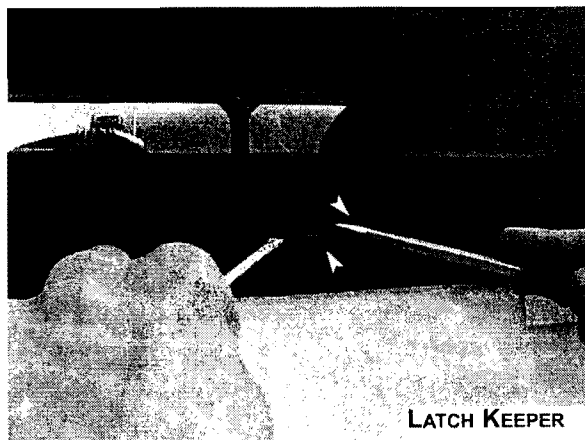

FIGURE 1
If the handle can be moved to the open position and the window does not open, the cable release or cable spring may be out of alignment or disconnected. Lubrication maybe required. Using two (2) flat screwdrivers, place one (1) between the window frame and the other on the latch keeper. Lift up on the frame while pressing down on the latch keeper to open the window. Repeat at the center of the window and at the opposite end. **Figures 1 & 2** For realigning and lubricating, SRT Code for this repair = 90-93.